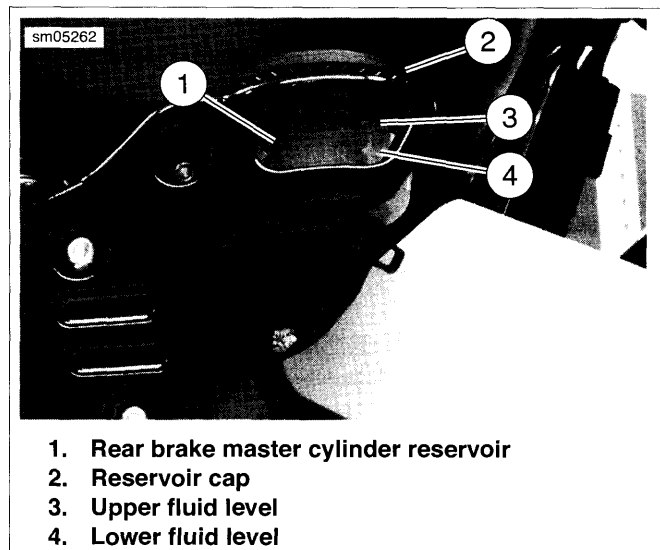

Figure 2-91. Rear Brake Master Cylinder Reservoir (XR Models)
7. See Figure 2-91. Remove reservoir cap (2).
8. Fill rear master cylinder reservoir (1) with HARLEY-DAVIDSON D.O.T. 4 BRAKE FLUID until the fluid level reaches the UPPER mark (3) on the reservoir.